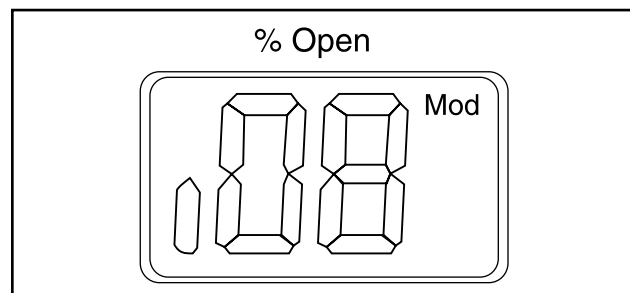

Figure 25
- Gives access to the Parameter list by keeping the push button activated for 2 seconds. A Parameter list example is shown below (parameter i08, Figure 25).
- Normally the Opening Degree (OD) 0 - 100% of the ICM valve is displayed. No activation of push buttons for 20 seconds means that the display will always show 0 (Figure 25).